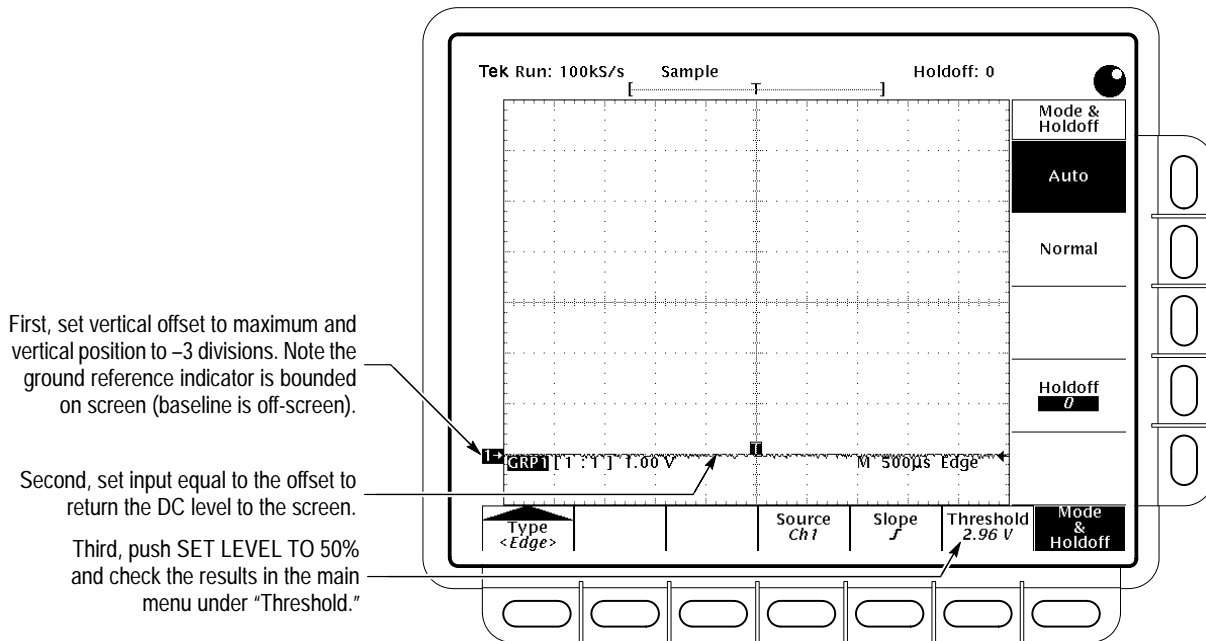

Figure 4-17: Measurement of Trigger-Level Accuracy
- f. Check that the **Threshold** readout in the main menu is between 2.54 V and 3.46 V. See Figure 4-17.